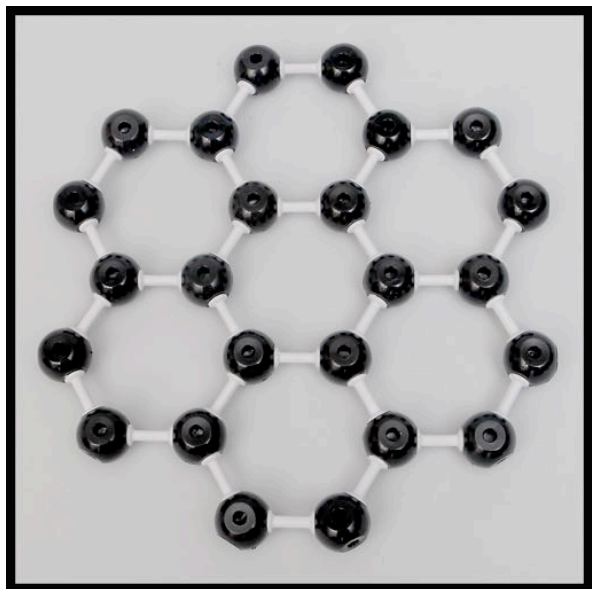

Fig 7 A finished graphene layer.
Your final graphene layer should look like Fig 7.
4. Repeat steps 1-3 two more times so that you have three copies of Figure 7.